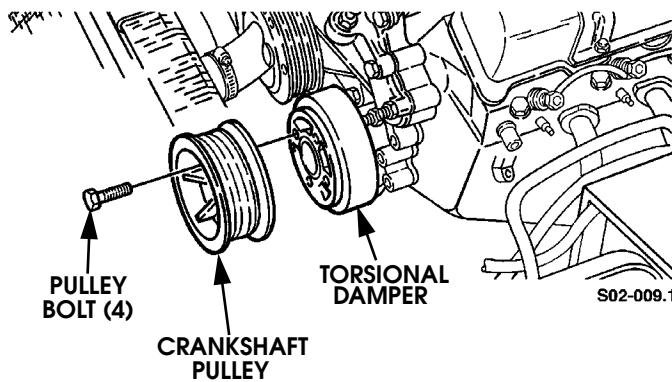

Figure 2-16: Crankshaft Pulley Mounting
1. Loosen (but do not remove) crankshaft pulley bolts (Figure 2-16).
12. Remove crankshaft pulley (Figure 2-16).